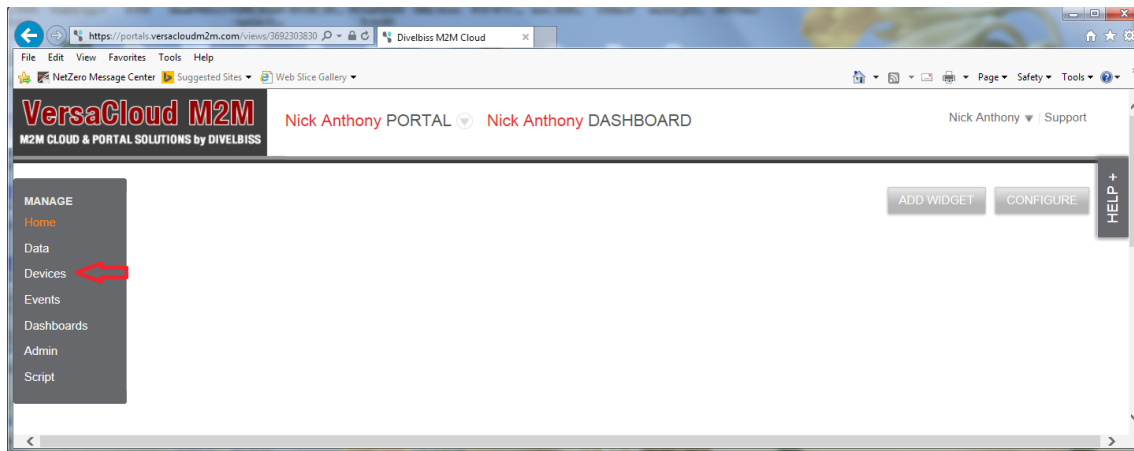

Figure 3 - Devices Selection - Side Menu
2. The next step is to 'add' the device or controller that will communicate to the VersaCloud M2M and your exclusive portal. Click the **Devices** selection located on the dash board page side menu (Refer to Figure 3). The Devices page will open.